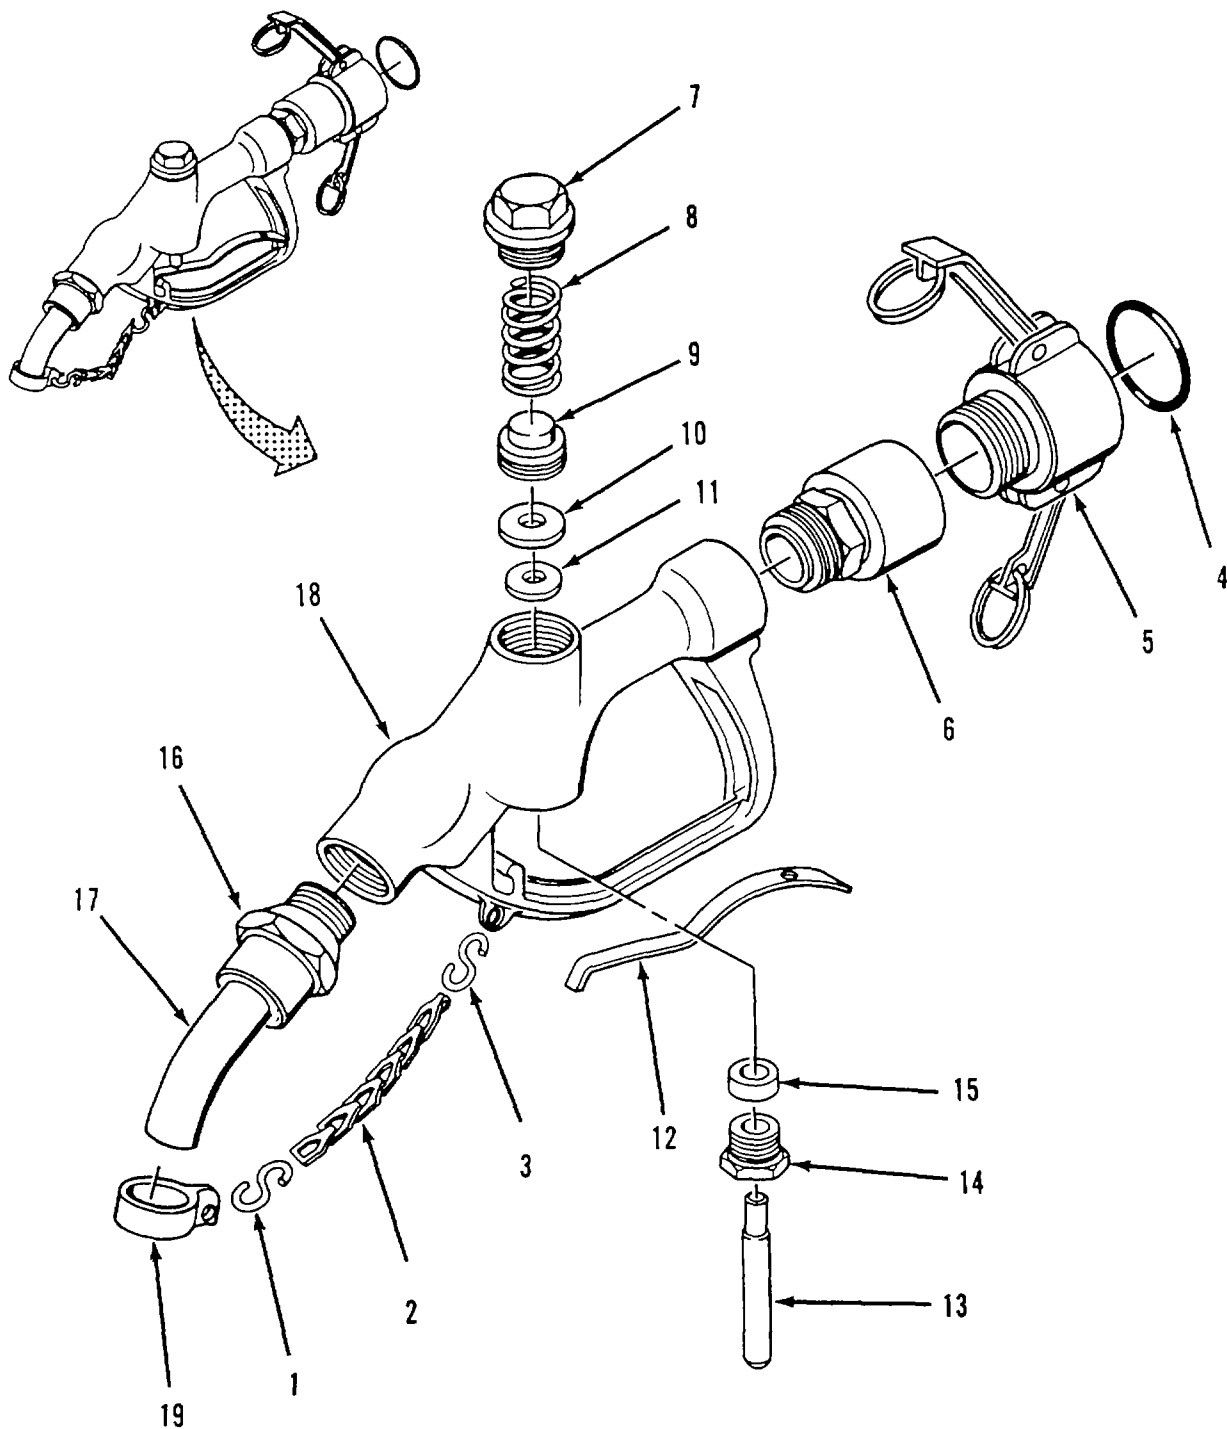

Figure 4-8. Distribution Nozzle (1-Inch) Disassembly.
- a. Disassembly. Refer to figure 4-8.
- (1) Disconnect S-hook (1) and remove cap (19) from chain (2).
- (2) Disconnect S-hook (3) from body (18) and remove chain (2).
- (3) Remove gasket (4) from coupling half(5).
- (4) Remove swivel (6) and coupling half (5) from body (18).
- (5) Unscrew coupling half (5) from swivel (6).